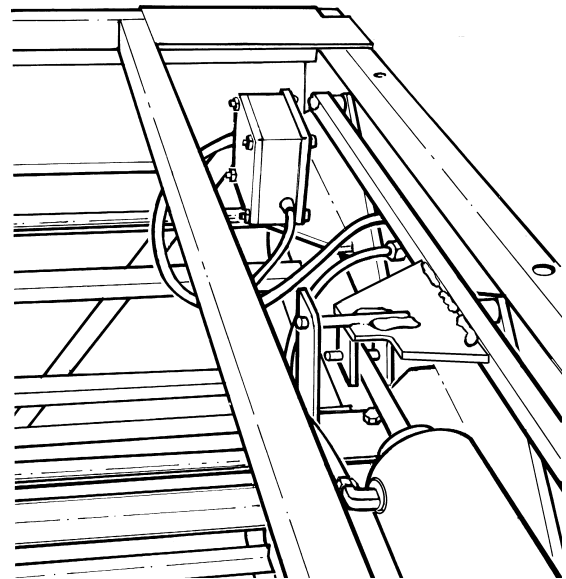
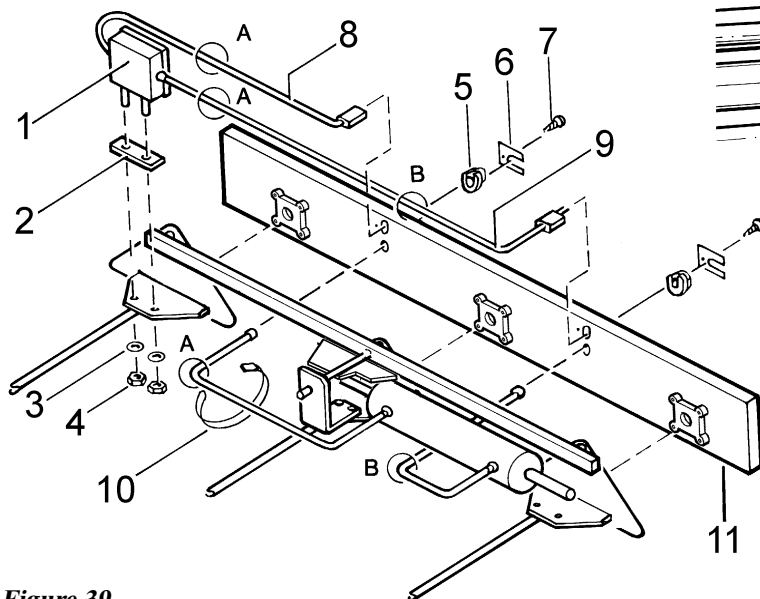

Figure 38
Figure 39
**Note:** Route the cord assemblies and air lines so as not to interfere with any moving parts (Figure 38). Secure the cord assemblies to the air lines at locations A and B using Item 10 (Figure 39).